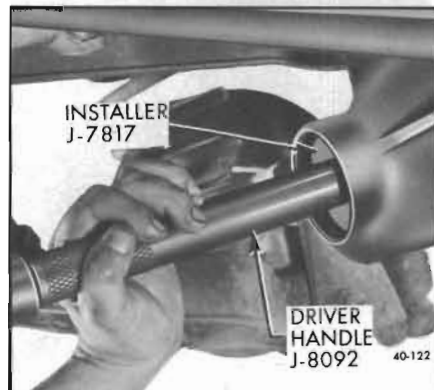

Figure 40-122—Installing Front Pinion Bearing Outer Race
2. If front pinion bearing is to be replaced, install new outer race using Installer J-7817 with Driver Handle J-8092. See Figure 40-122.